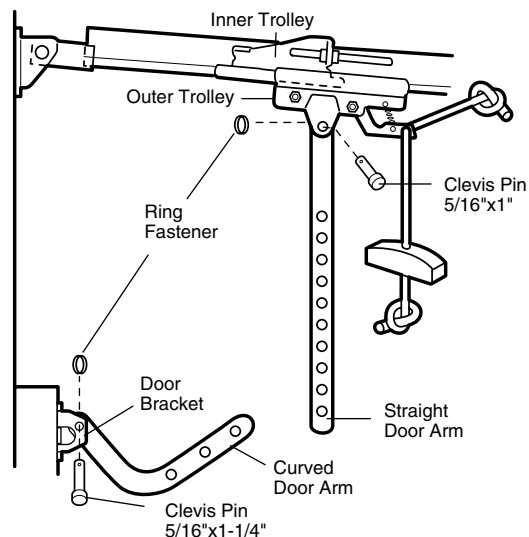

Figure 1
- Make sure garage door is fully closed. Pull the emergency release handle to disconnect the outer trolley from the inner trolley. Slide the outer trolley back (away from the door) about 5 cm as shown in Figures 1, 2 and 3.
• Figure 1: